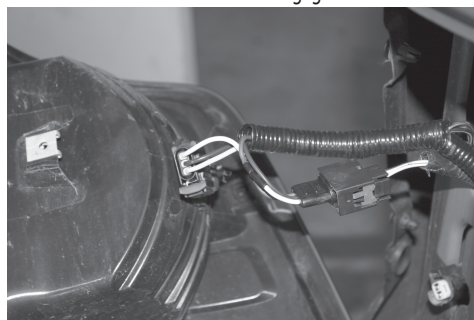

Figure 2
3. Starting on driver's side position the RV harness with connectors containing Yellow wires between separated vehicle harness connectors shown in **Figure 2**. Press connectors firmly into the vehicle connectors until they lock into place. Pull on connectors to ensure the locks are engaged.